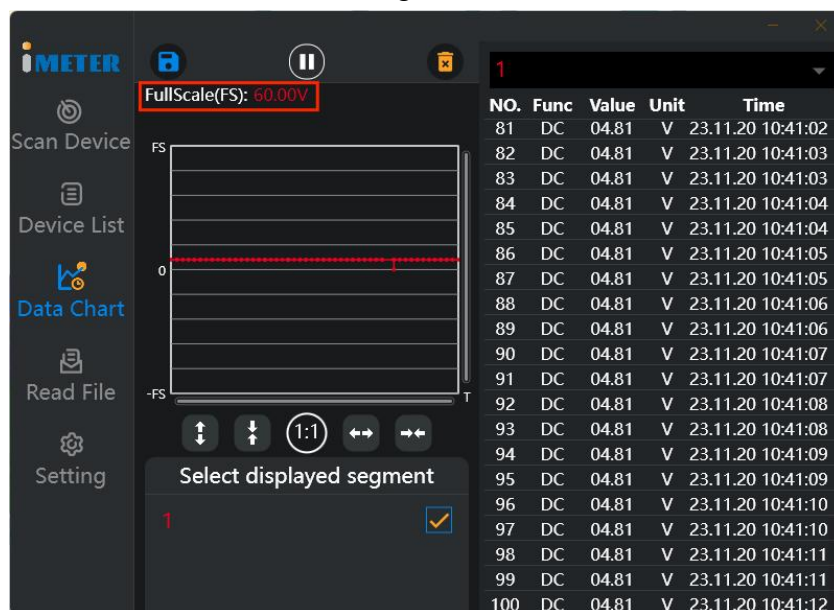

Figure 2
- Figure 2: The reading is 04.81V. Adding a decimal to the third digit of 6000 gives a full scale of 60.00V.